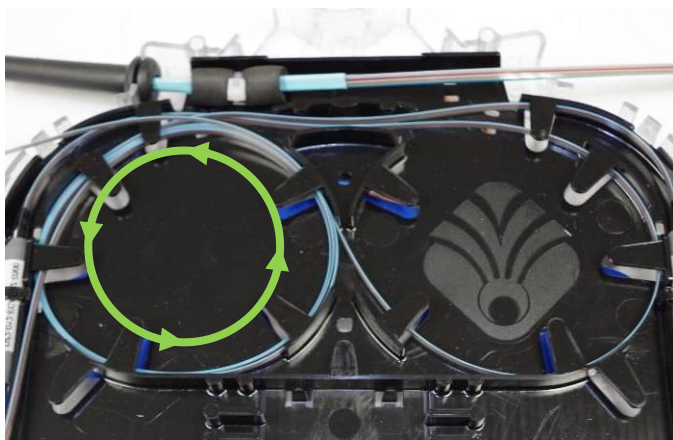

Figure 6
- Step 6:** Continue wrapping both ribbon pigtails together in the slack storage loop (**Figure 6**).